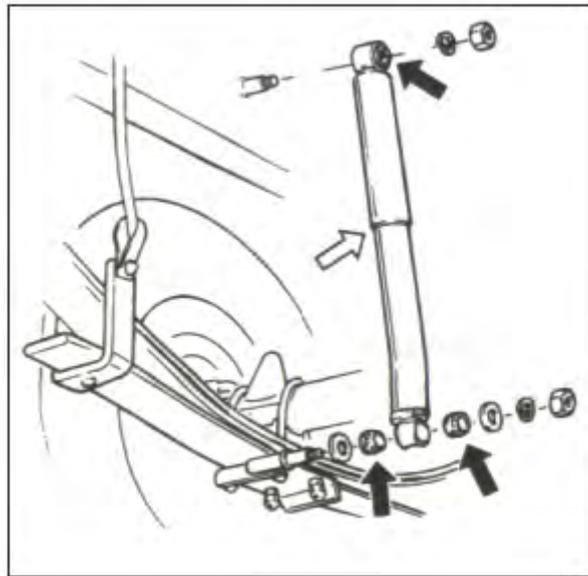

FIG.14-29
(1) (1) Shock absorber (FIG.14-29)